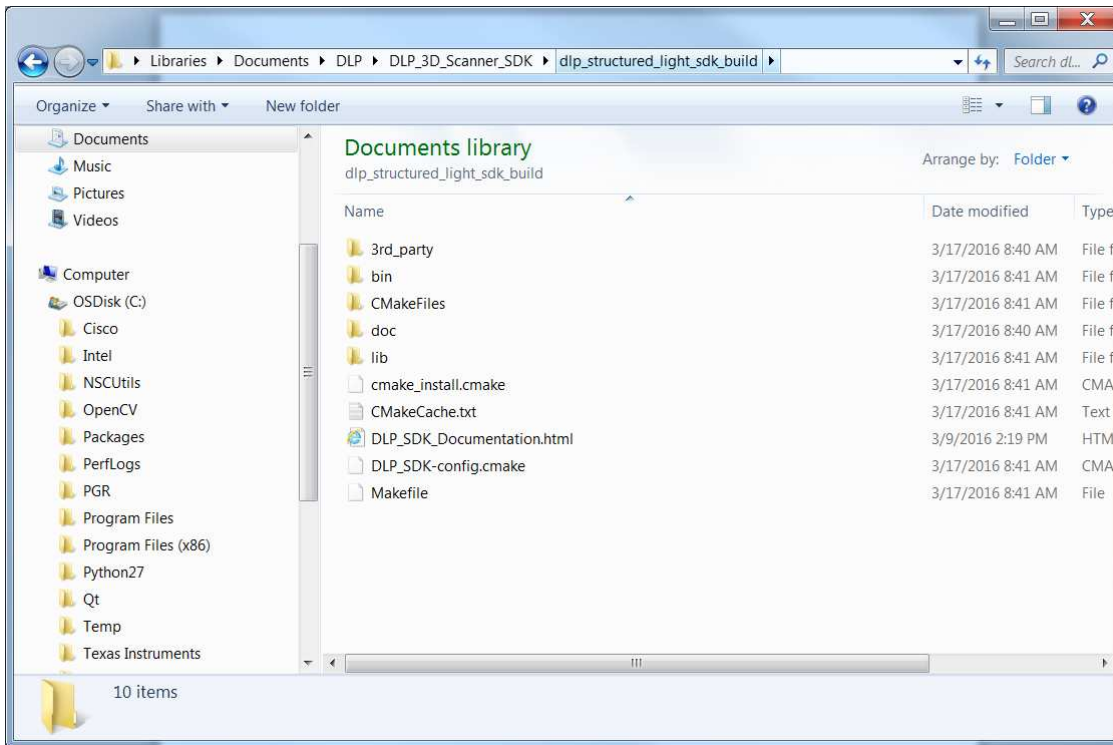
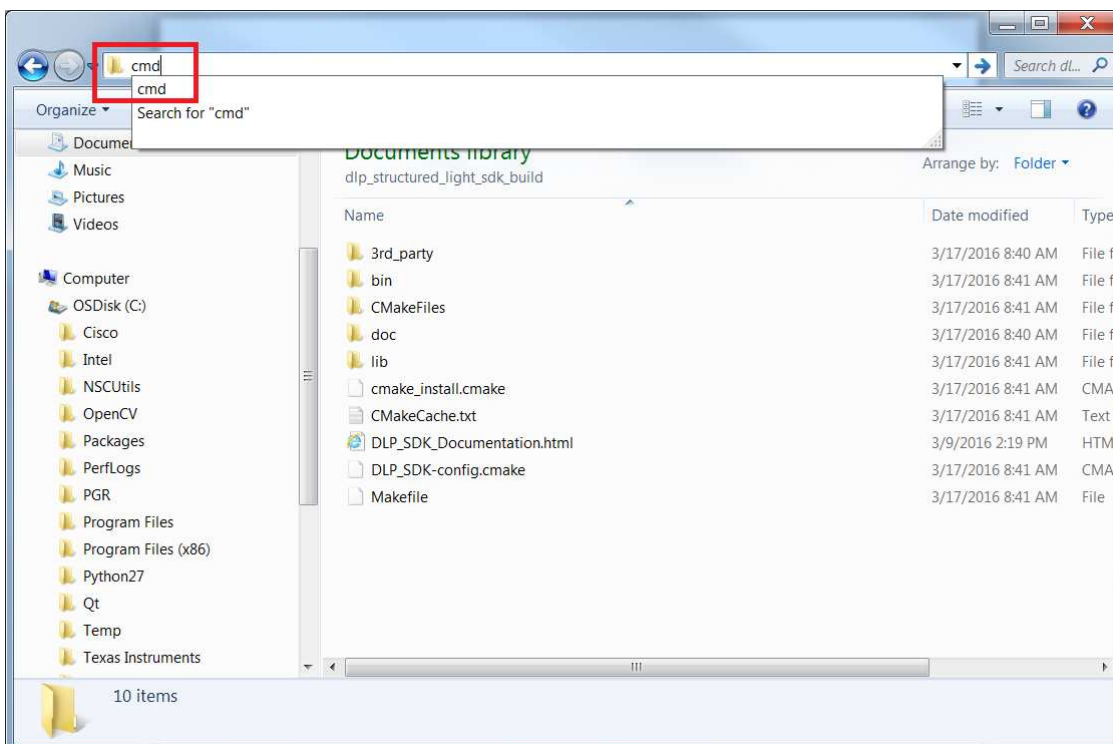

Figure 48. Browse for DLP ALC SDK Built Files
Figure 49. DLP ALC SDK CMD Line
6. As shown in Figure 48 and Figure 49, browse to the location of the built DLP ALC SDK files and type "cmd" in the file path and hit enter.